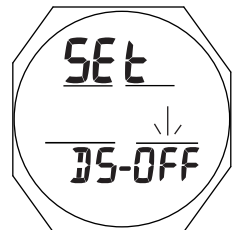

Fig. 49 - SET DEEP STOP
**Set Deep Stop (DS)**, information includes (Fig. 49):